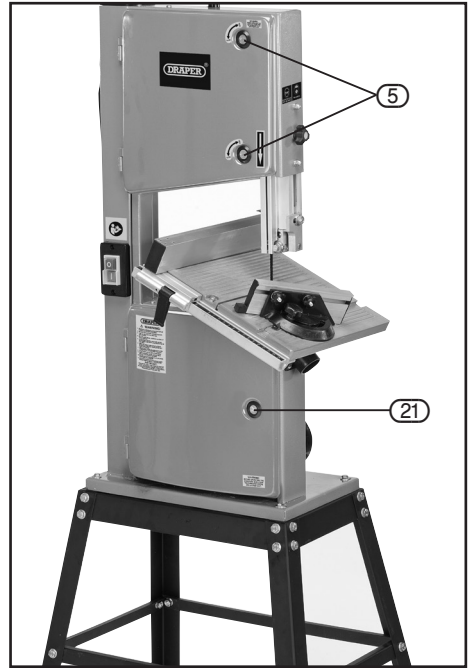

FIG. 9
9.3 UPPER AND LOWER DOORS – FIG. 9